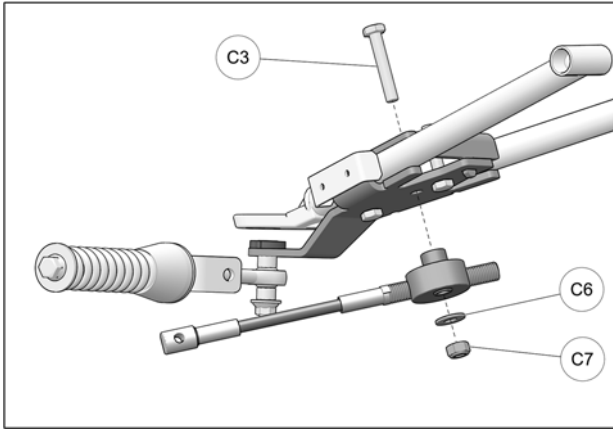

Fig. 21
11. Pass bolt (C3) down through opening in bracket cover and insert it in the anchor bracket's central hole. Slip steering limiter cable assembly over bolt (C3) and use washer (C6) and nut (C7) to secure assembly to anchor bracket. Tighten nut to 50 N•m [37 lb•ft]. Refer to Fig. 21